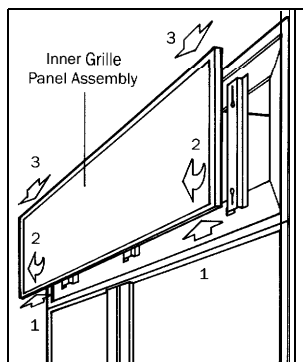
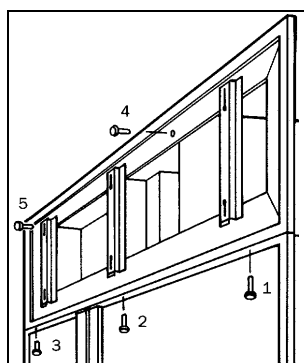

Figure 9
Figure 10
To remove Model 590 grille assembly, the inner grille panels assembly must first be removed. Lift up (1), then pull out at the bottom (2), then pull top section down and out of the top key slot (3) as in Figure 9. Next, remove the five mounting screws that hold the outer grille panel assembly to the top compartment. See Figure 10.
Remove the inner grille panel assembly (refer to Figure 9 on page 14) and remove the top two corner screws and pull away the top frame. See Figure 28.
Reattach the top frame and install the inner grille panel assembly back onto the unit. See Figure 9 on page 14.